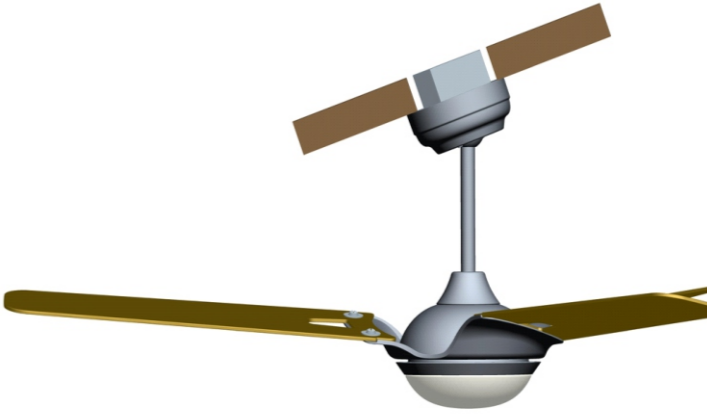

Fig 3.3
- Note: The wooden ceiling beam must meet the tensile test of 30KG for installation, as shown in Fig 3.2. It is also possible to install the mounting bracket directly to the concrete ceiling and install four screws to the left and right corresponding holes of the bracket to lock the ceiling, as shown in Fig 3.3.
If you have an angled or vaulted ceiling: (Fig.3.3)